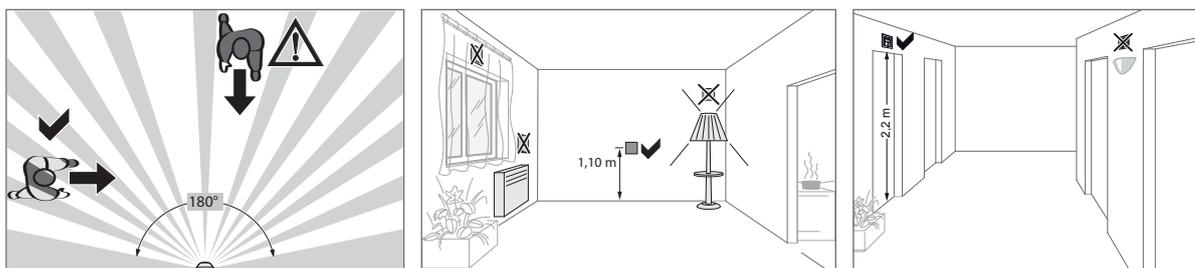

Fig 4: Installation location of the motion detectors
- ❗ Observe the motion orientation: a distinction is made between "direct approach" and "transverse motion". Motions transverse to the motion detector can be detected better than motions toward the motion detector (Fig. 4).
- Avoid sources of interference in the detection area. Sources of interference, e.g. heating elements, ventilation systems, air conditioners and lamps that are cooling down can cause undesired switching (Fig. 4).